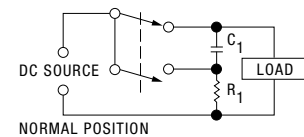

Figure 5A — Charged Capacitor Suppression Circuit in Normal Position
3. Vacuum switches using a charged capacitor suppression circuit that causes ringing and creates artificial current zeros have been used to interrupt up to 35 kV DC at 150 amps DC resistive loads. (See Figures 5A and 5B.)